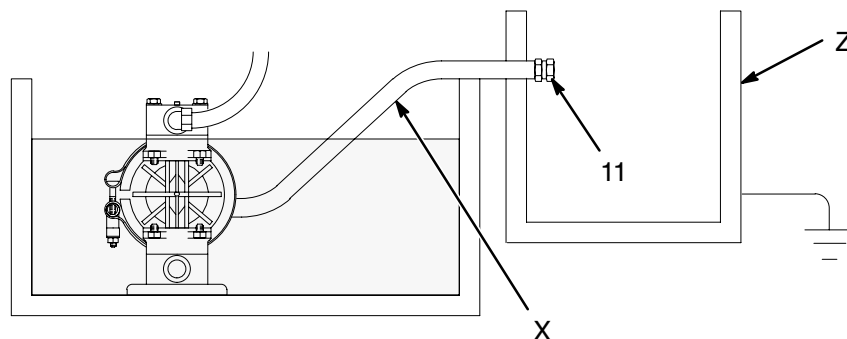

Fig. 8
Diaphragm failure will cause the fluid being pumped to exhaust with the air. Place an appropriate container at the end of the air exhaust line to catch the fluid. See Fig. 8.
1. Remove the muffler (11) from the pump air exhaust port.
2. Install an electrically conductive air exhaust hose (X) and connect the muffler to the other end of the hose. The minimum size for the air exhaust hose is 3/8 in. (10 mm) ID. If a hose longer than 15 ft (4.57 m) is required, use a larger diameter hose. Avoid sharp bends or kinks in the hose.
3. Place a container (Z) at the end of the air exhaust line to catch fluid in case a diaphragm ruptures. If the fluid is flammable, ground the container. See Fig. 8.